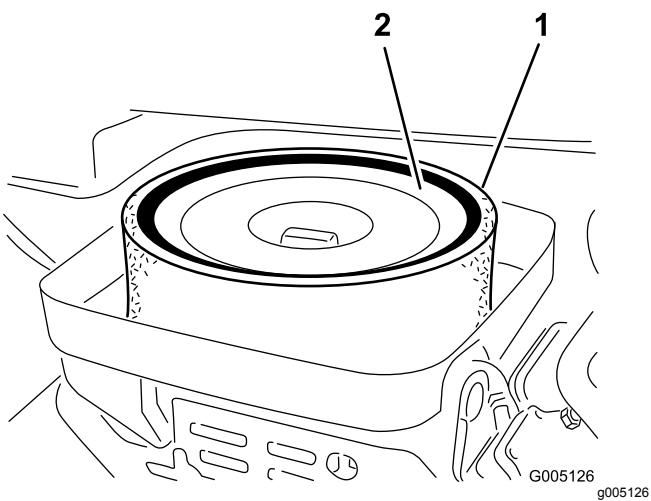

Figure 28
3. Remove the wing nut securing the elements to the air-cleaner body (Figure 28).
4. If the foam element is dirty, remove it from the paper element (Figure 28). Clean it thoroughly, as follows: